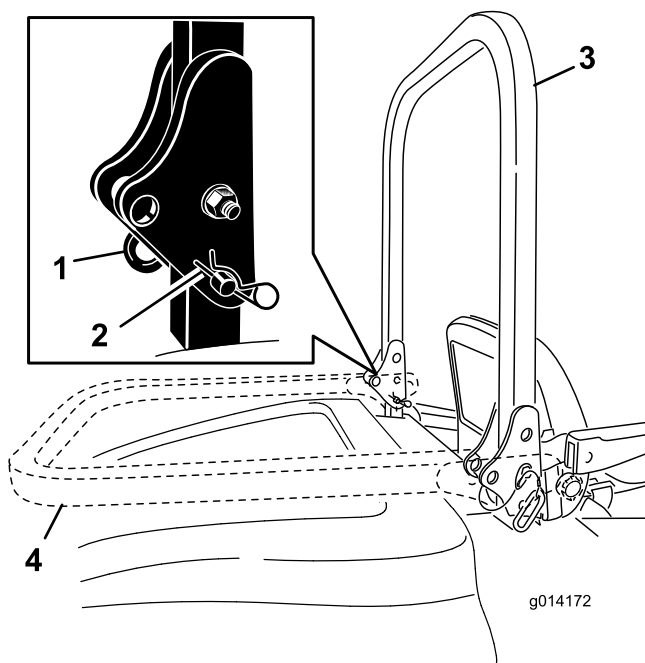

Figure 22
2. Remove the 2 hairpins and remove the 2 pins (Figure 22).
3. Raise the roll bar to the upright position (Figure 22).
4. Secure the roll bar with the 2 pins and 2 hairpins (Figure 22).
1. Remove the hairpins, push the roll bar forward against the springs, and remove the 2 pins (Figure 22).
2. Lower the roll bar to the down position (Figure 22).
3. Install the 2 pins into the pivot plates and secure the pins with the 2 hairpins (Figure 22).